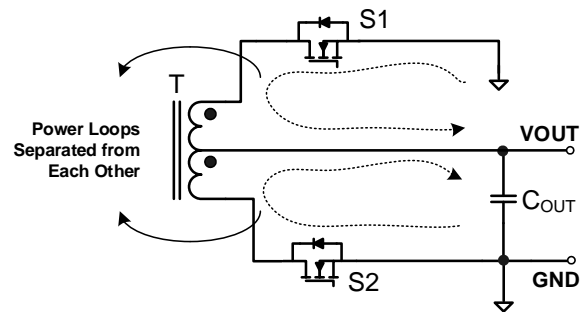

Figure 15: System Power Loop
Figure 15 shows how  $t_{ON}$  affects system efficiency.
1. Keep the two channels' power loops separated from each other (see Figure 15) to minimize the interaction between the two channels' power loops, which may affect the voltage sensing of the IC.